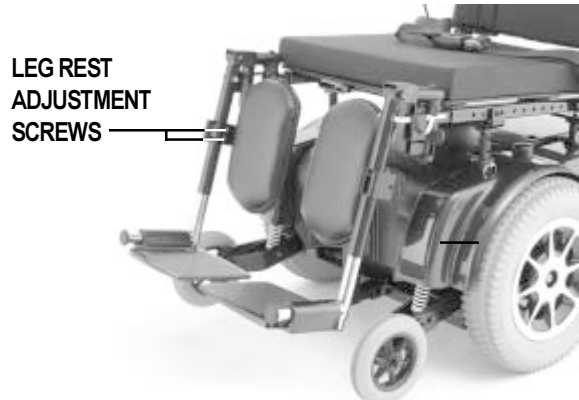

Figure 23. Elevating Leg Rests
1. Remove the two screws from the side of each leg rest extension. See figure 23.